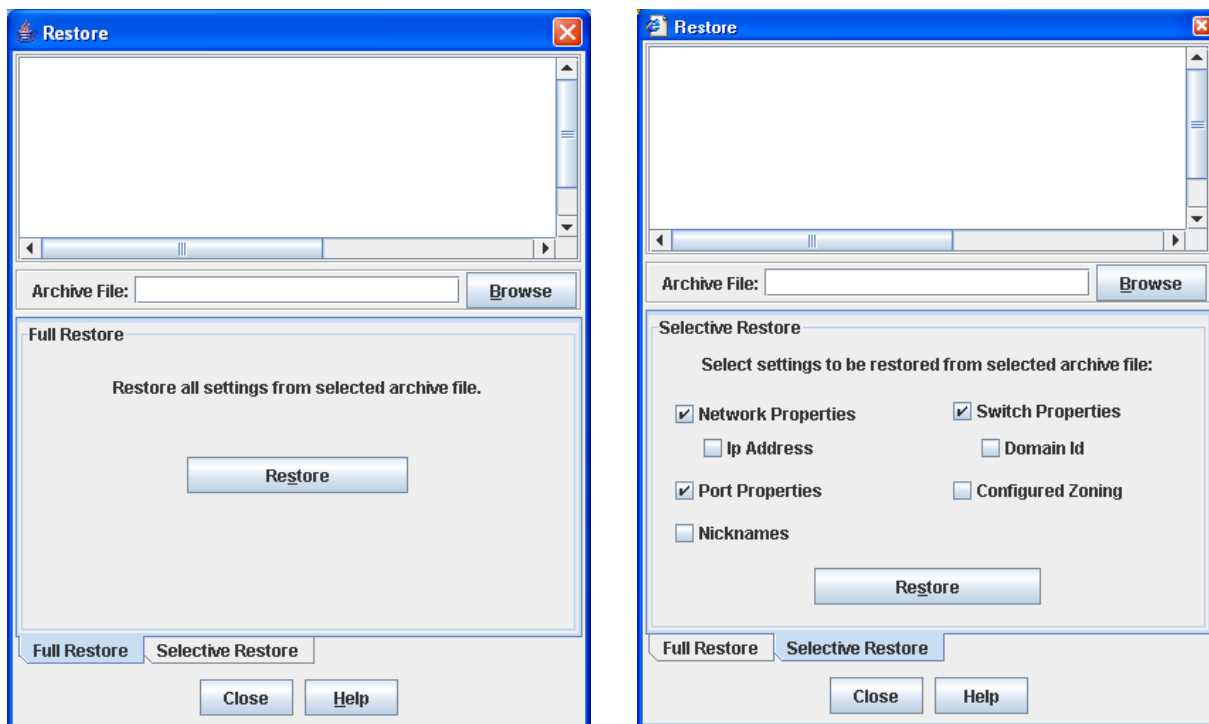

Figure 35 Restore Dialogs – Full Restore and Selective Restore tab pages
2. Select **Switch > Restore** in the faceplate display to open the Restore dialog shown in Figure 35.